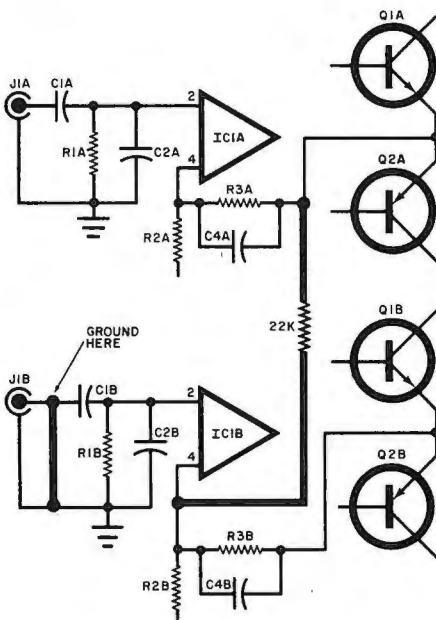

Fig. 4. Additional connection shown in bold will drive the amplifier, in bridged mode, giving 30 W rms (monaural) into 16 ohms.
**Getting More Power.** The amplifier can provide 30 watts of output power into a *monaural* load for 4- or 16-ohm speakers. For 4-ohm speakers, simply parallel the inputs and outputs. For 16-ohm speakers, a bridge configuration can be used as shown in the simplified schematic of Fig 4. Note that a 22,000-ohm resistor must be connected from pin 4 of the channel B driver IC to the junction of C4 and R3 in the channel A circuit. Also, channel B's input must be grounded at the input jack J1B. Connect a 16-ohm speaker directly across the "hot" sides of jacks J2 of both channels.
With the system wired as shown in Fig. 4., the second amplifier channel is driven out-of-phase with the IC1 channel. This doubles the voltage across the speaker load, and thus